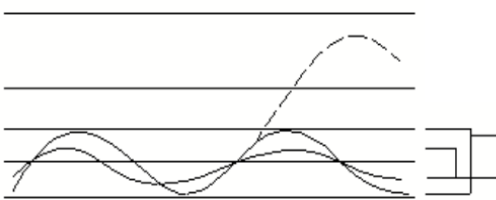

图 1 Fig.1
- 应用产品必须经过测试以确定出现任何异常状况时都不会使温度保险丝周围温度超过极限温度 (Tm)，这种状况可能出现在一种称为“余热过冲”的状况下。例如：一个热风机在进风口或出风口堵塞时引起温度升高到 Tf，这时温度保险丝断开电路，但是，一个不正确的设计可能会引起装置提前开路 and 过度的余热过冲可能会损伤保险丝，应用产品须经测试以确定在正常的温度波动状态 (如控温器的动作与复位引起的加热器温度波动) 下，温度保险丝周围温度在控温器的通断循环中不会达到 Tm。(见图 1)
- The end product should be tested to ensure that potentially abnormal conditions do not exposed the thermal cutoff to the temperature exceeding its Tm. This condition may be subjected to a blocked inlet or outlet condition on attaining its Rated functioning temperature opening of the device and excess overshoot may cause shooting or damage to the thermal cutoff.The end product should be tested to ensure that under normal cycling condition (such as cycling of athermostat),the thermal cutoff never reaches its Tf during the'on/or'off'cycle.(see Fig 1)